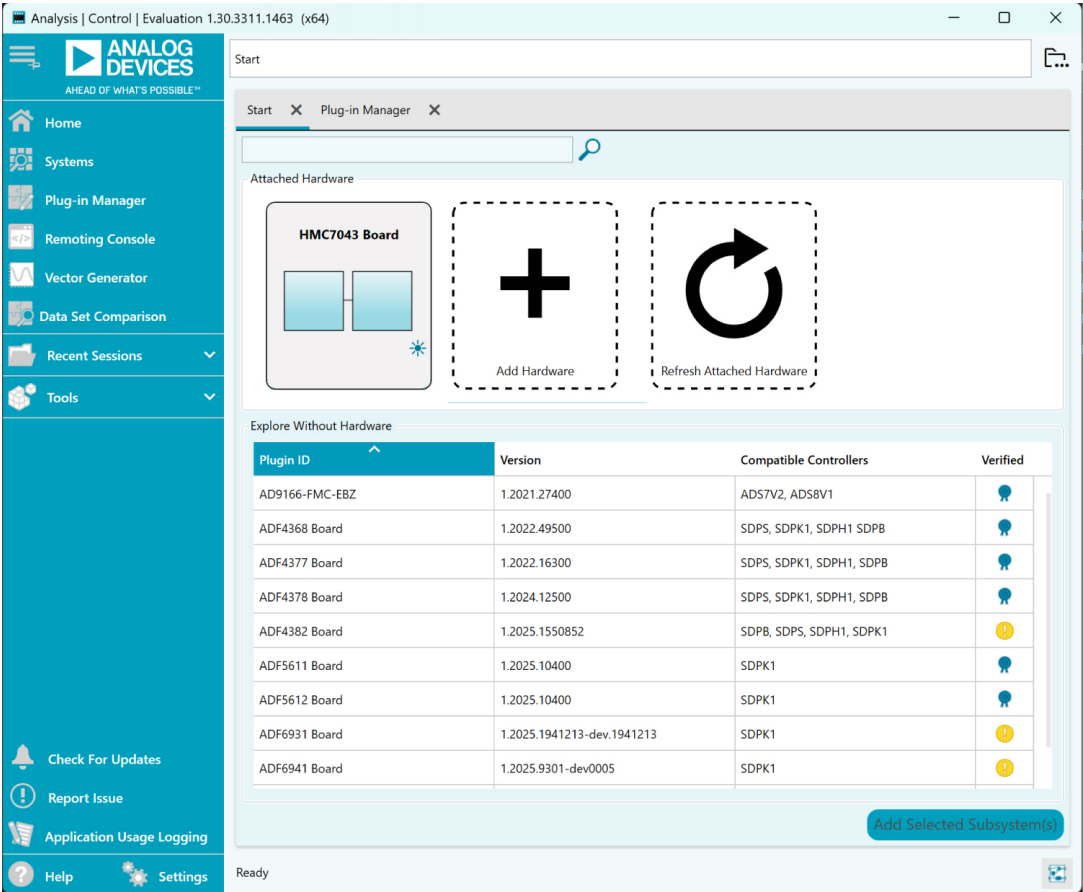

Figure 3. ACE Start Page, Attached Hardware (HMC7043B Evaluation Board)
1. Launch the ACE application. With the SDP-K1 board connected to the EK1HMC7043BLP7F, the attached hardware appears in the graphical user interface (GUI) as shown in Figure 3.